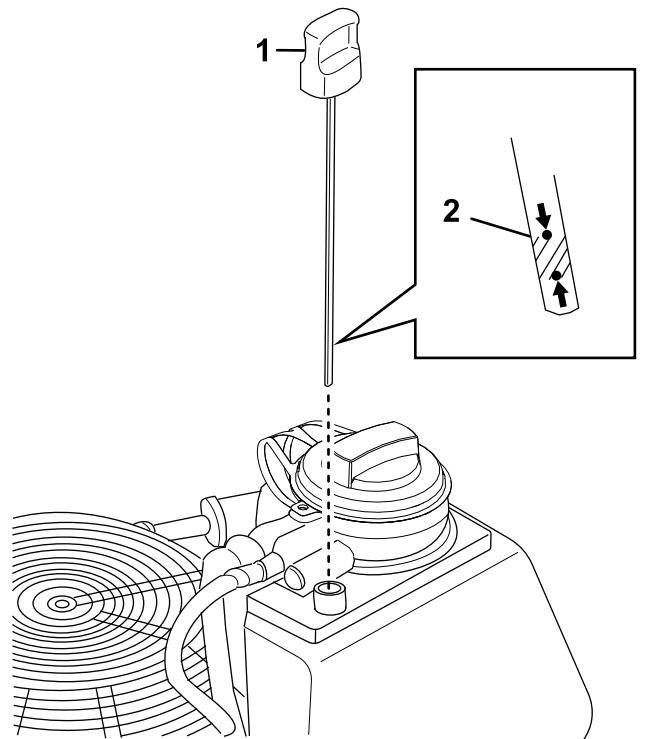

Figure 37
4. Remove the dipstick and wipe it clean (Figure 37).
6. Remove the dipstick and check the oil level. The oil should be at the full-level indicator on the dipstick (Figure 37).